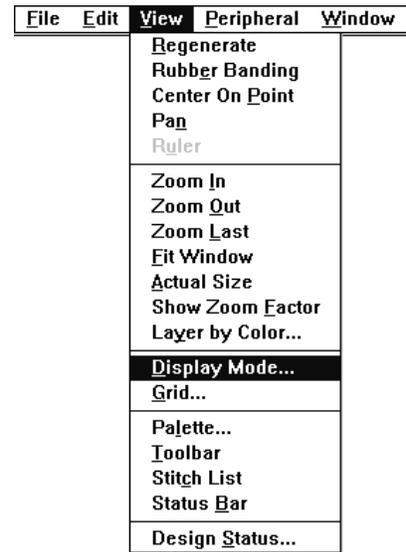

Figure 5-7
2. Click on the Display Mode menu item in the drop-down menu (see Figure 5-7).